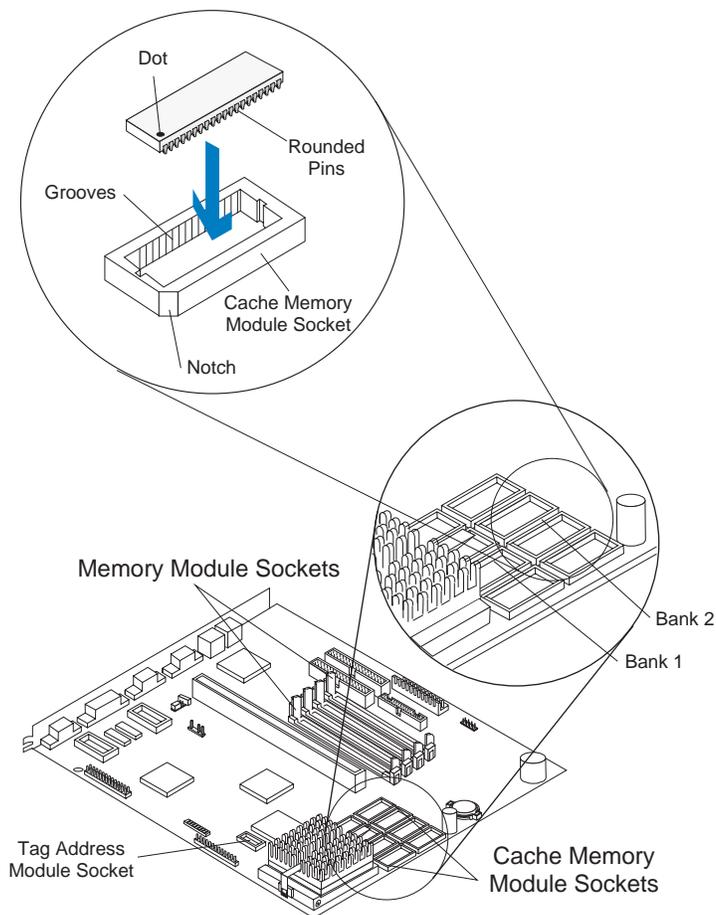

Figure 4-13. Cache Memory Modules
1. Locate the cache memory module connectors on the system board (see Figure 4-13 on page 4-13).